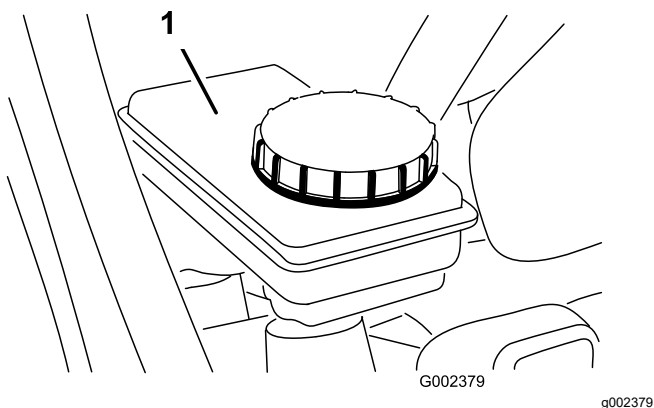

Figure 57
5. Ensure that the fluid level is up to the Full line on the reservoir (Figure 57).
6. If the fluid level is low, clean the area around the cap, remove the reservoir cap, and fill the reservoir to the proper level with the specified brake fluid (Figure 57).